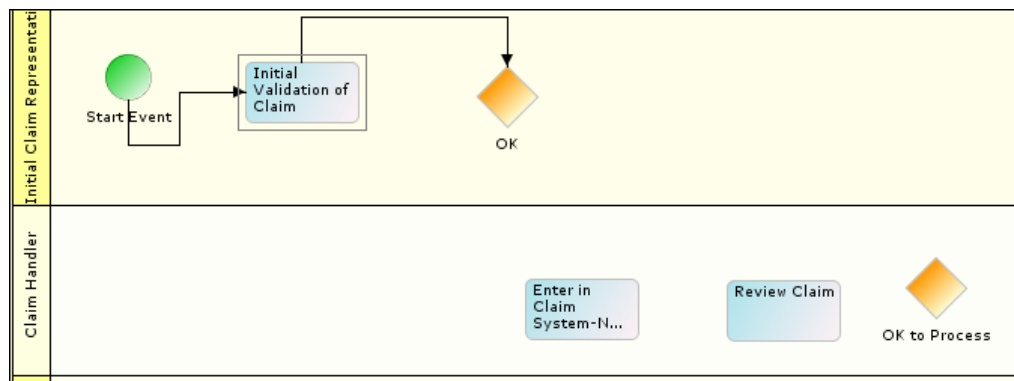

Figure 7.17: Connecting BPMN Elements
2. Drag the cursor between two BPMN elements. Both BPMN elements are connected with the selected flows (see Figure 7.17).